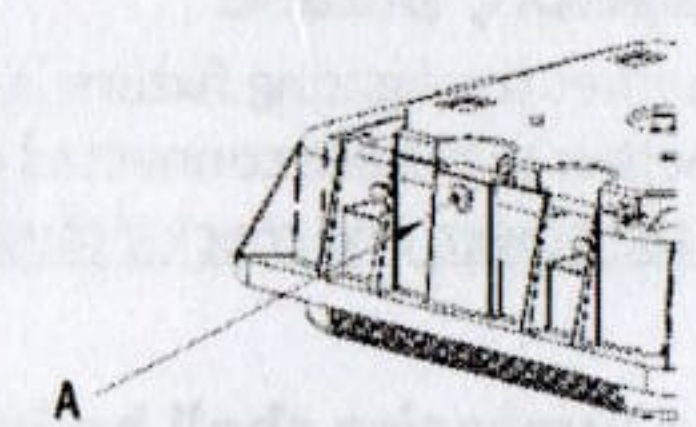

Figure 8
6. Retighten screw A to hold the mounting plate in place on the luminaire body. See Figure 8.